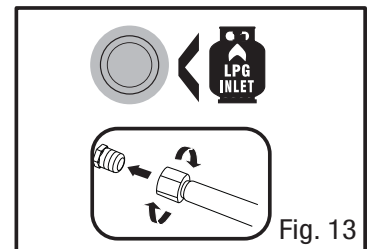

Fig. 13
3. Connect the small end of the LPG gas hose to the LPG regulator on the generator and then snug with a wrench to prevent leakage (Fig. 13).